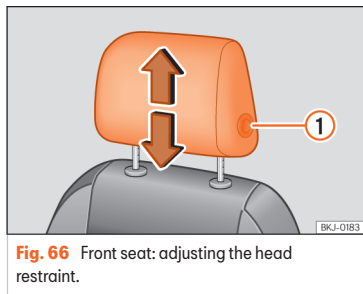
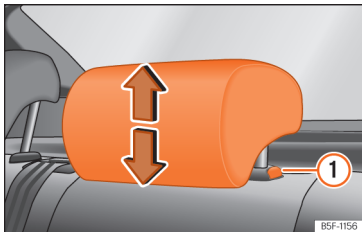

Fig. 66 Front seat: adjusting the head restraint.
Fig. 67 Rear headrest: adjusting the headrest.
- Grab the sides of the head restraints with both hands and push upwards to the desired position. To lower it, repeat the same action, pressing the button on the side ① >>> Fig. 66, >>> Fig. 67.